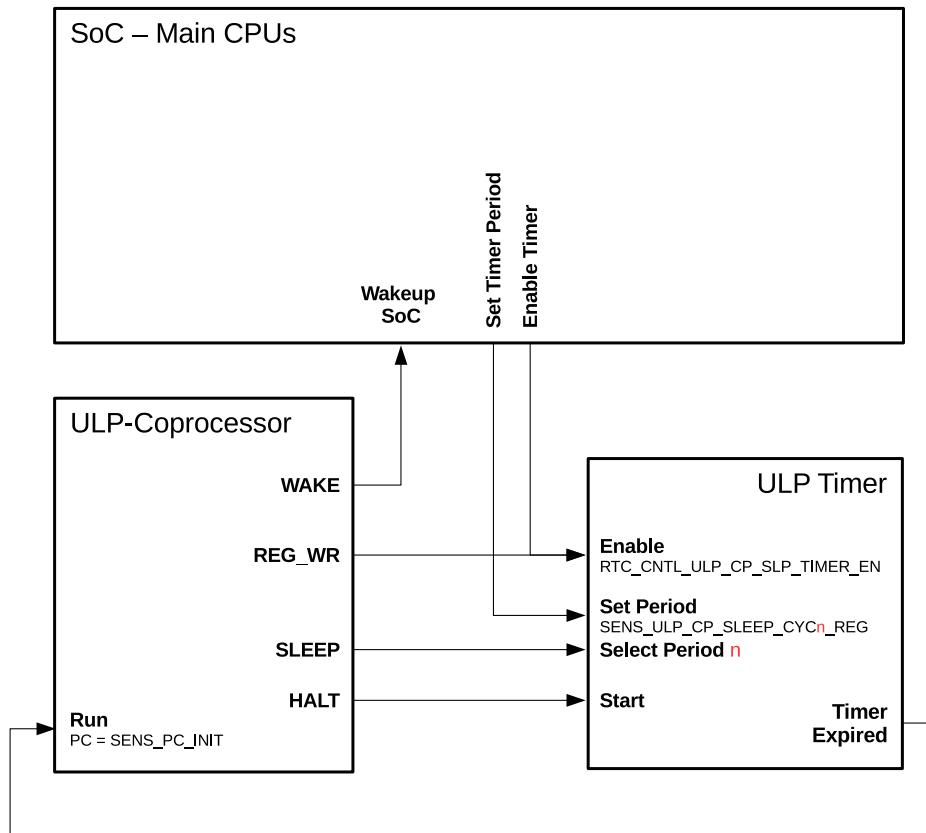

Figure 141: Control of ULP Program Execution
The ULP co-processor puts itself into sleep mode by executing the HALT instruction. This also triggers the ULP timer to start counting RTC\_SLOW\_CLK ticks which, by default, originate from an internal 150 kHz RC oscillator. Once the timer expires, the ULP co-processor is powered up and runs a program with the program counter (PC) which is stored in register SENS\_PC\_INIT. The relationship between the described signals and registers is shown in Figure 141.